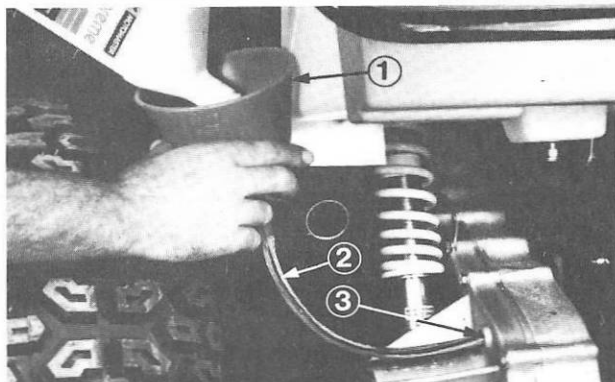

Fig. 29 ① Funnel ③ Filler Plug Hole
2. Remove the top transmission plug and clean it off. (Figure 29).